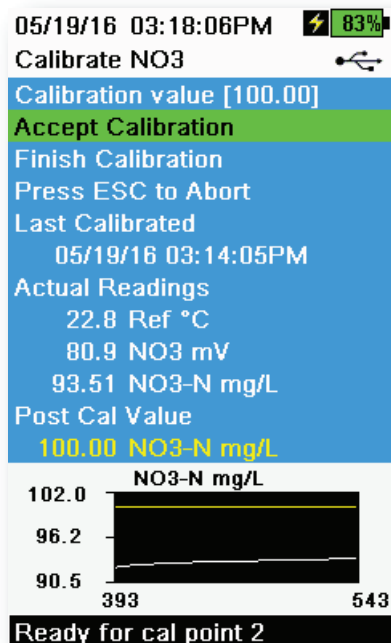

Figure 56 Calibrate ISE
5. Observe the actual measurement readings for stability (white line on graph shows no significant change for 40 seconds), then select **Accept Calibration** (Figure 56). "Ready for cal point 2" will be displayed in the message area.
10. Observe the actual measurement readings for stability (white line on graph shows no significant change for 40 seconds), then select **Accept Calibration** (Figure 56). "Ready for cal point 3" will be displayed in the message area.